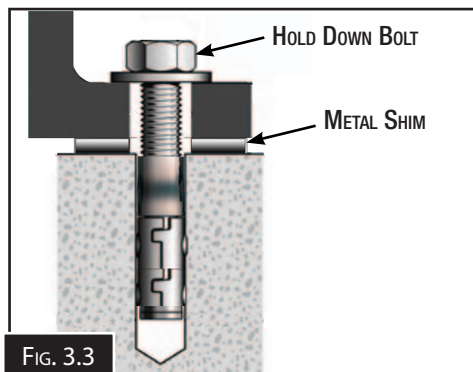

FIG. 3.3
*The machine must not rest on supports other than those defined in Fig. 3.3*